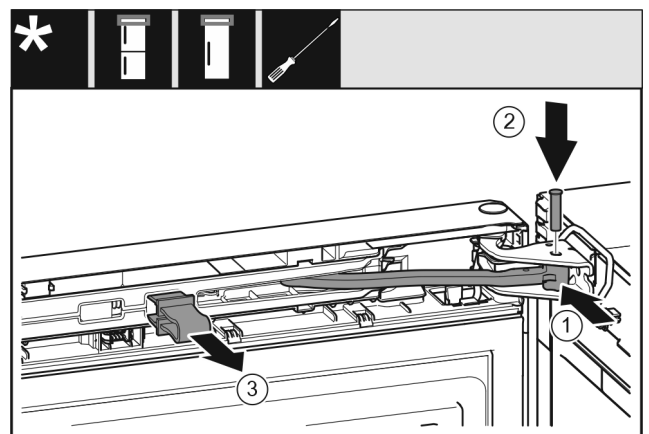

Fig. 22
- ▶ Turn the hinge in the bearing bracket. Fig. 22 (1)
- ▶ Insert the bolt in the bearing bracket and hinge. Make sure that the latching lug is sitting correctly in the groove. Fig. 22 (2)
- ▶ Remove the locking device. Fig. 22 (3)